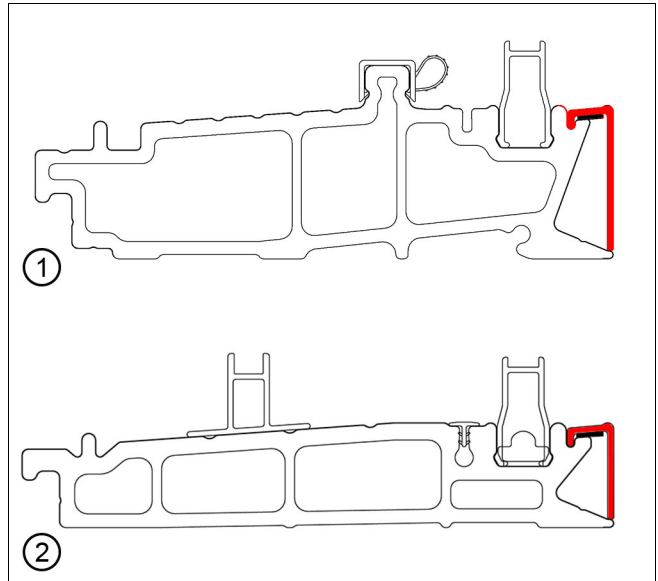

Figure 50
3. Locate and remove the tape backer on the interior sill liner. Press down and fully seat the sill liner. See Figure 50.